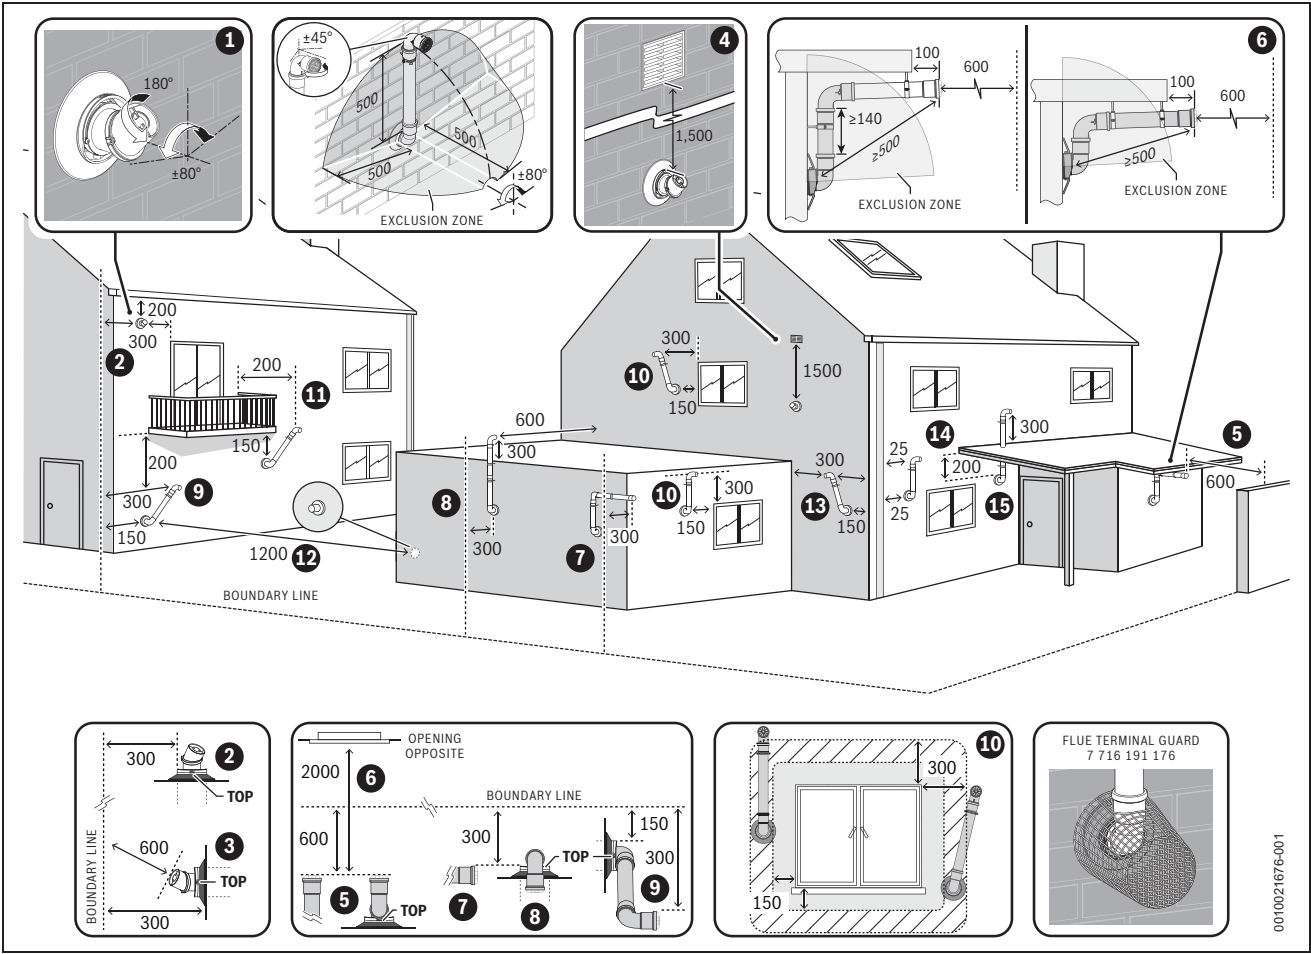

Fig. 32 Plume re-direct and plume management terminal positions
- Refer to "Horizontal flue terminal positions" for all concentric flue terminal positions unless the flue position is specified in figure 32 "Plume re-direct and plume management terminal positions".
Key to figure 32 - Plume re-direct terminal positions:
Key to figure 32 - Plume management terminal positions: